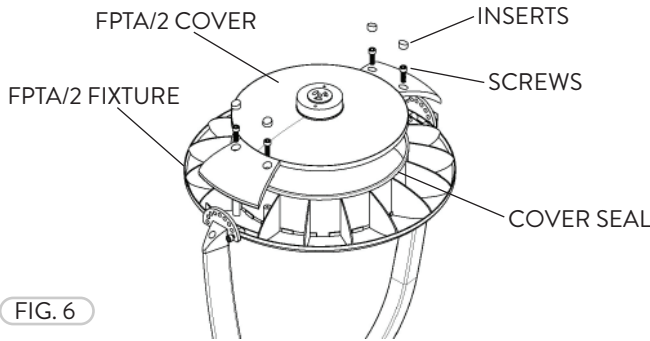

FIG. 6
- 1 Remove the flush rubber inserts from the Cover. Remove the Screws from the Cover. Lift the Cover from the FPTA fixture. The fixture is now open to adjust (if needed) the Bi-Level Motion Control setting. The process is the same for all FPTA Fixtures (Fig. 6).